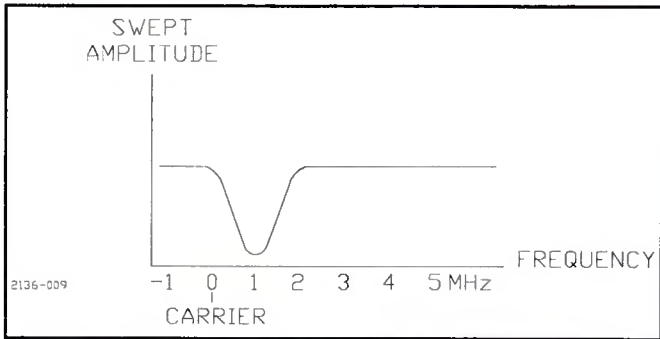

Figure 5-9
h. Set the frequency of the null .75 MHz above carrier using FREQ control. See Figure 5-9.